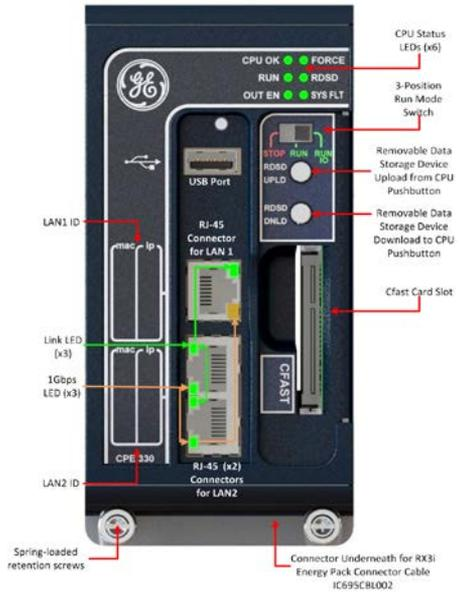

Figure 1: IC695CPE330 Features at a Glance
- Supports two independent 10/100/1000 Ethernet LANs. As shown in Figure 1, LAN1 attaches via the upper, dedicated RJ-45 connector. LAN2 attaches via the lower pair of internally-switched RJ-45 connectors.
LAN1 connects to the uppermost RJ-45 connector. It is not switched. LAN2 connects to the two lower RJ-45 connectors. They are switched internally. Record the IP Address of each LAN in the space provided (Figure 1).